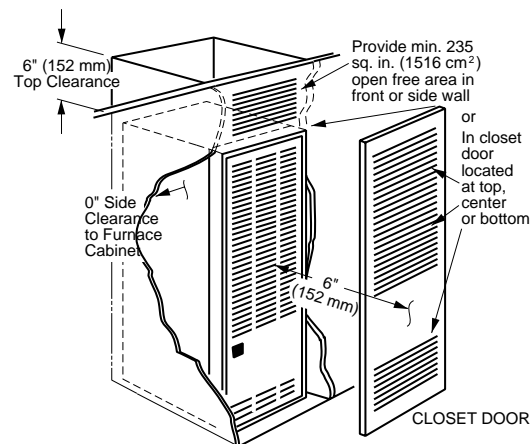
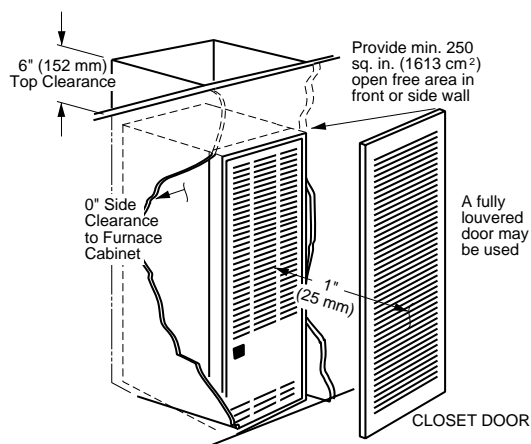

Figure 3. Closet Installation
Figure 4. Special 1" Clearance
- b. Closet installations must use a louvered door having a minimum free area of 235 sq. in. when located 6" from furnace (See Figure 3) or 390 sq. in. for 5 ton ready M1 furnaces. For special clearance between 1" and 6", requirements are a louvered door with a minimum of 250 sq. in. free area, with the openings in the closet door directly in line with the louvered openings in the furnace door. A fully louvered closet door may be used (See Figure 4).